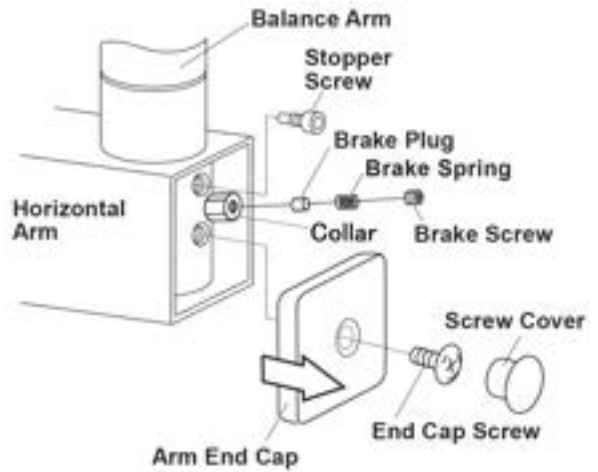

Fig.3-14 Attaching Balance Arm to Horizontal Arm
(Fig.3-14)
- Insert the brake plug, brake spring and brake screw into the horizontal arm collar. (Fig.3-14)
If the end of the horizontal arm shown in position #1 is pitched below level, then the tube head will drift away from the wall. If the end of the horizontal arm in position #1 is pitched above level, then the arm will require only minimum adjustment of the brake screw. (Fig.3-14)